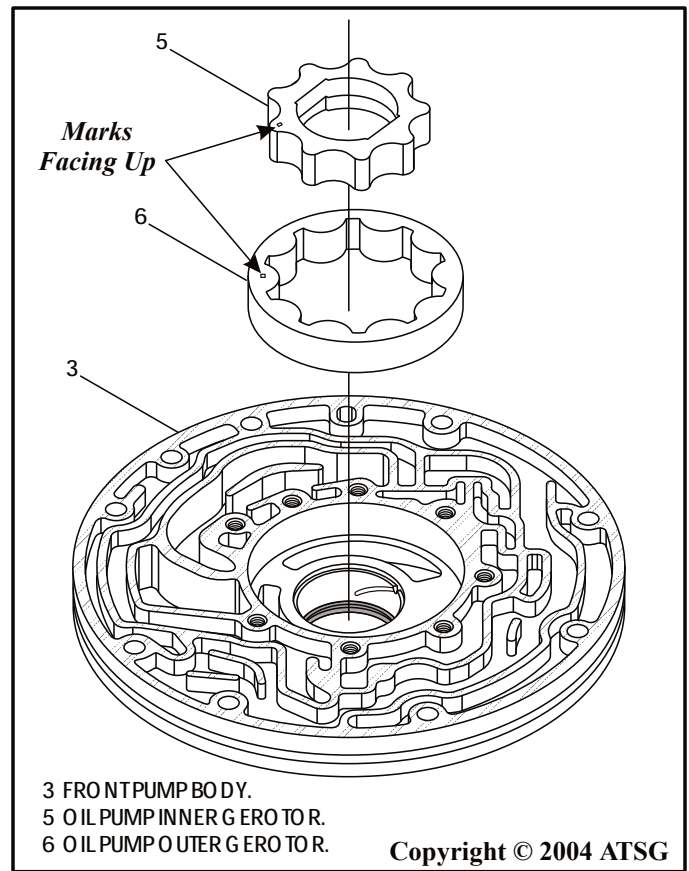

Figure 83
7. Lubricate the oil pump gears with fluid and install them into the pump body pocket with marks facing up, as shown in Figure 83.